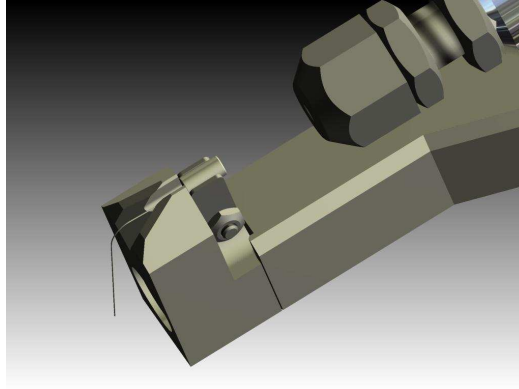

Figure 6
2. The socket with the part number 964320 must be inserted between the springs (see figure 6). It is to be assured that the socket fits flush and clamps between the springs. The magnet wire is slid into the female part and must overlap on the other side. The excessive magnet wire is cut off while pressing the pin into the socket. During this process the magnet wire must be held in position by hand.